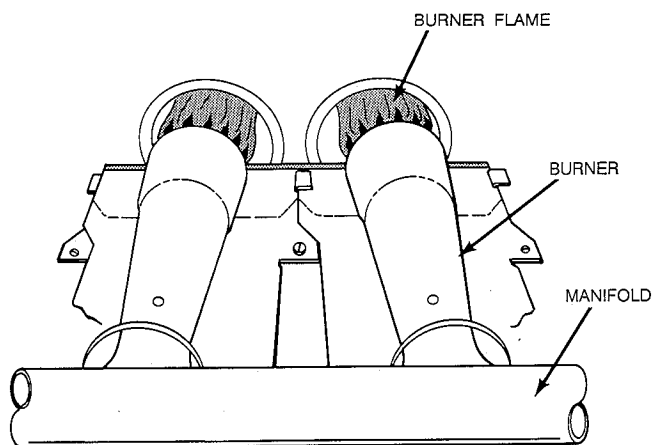

Figure 14—Burner Flame
- (3.) When correct input is obtained, replace regulator seal cap. Main burner flame should be clear blue, almost transparent. See Figure 14.